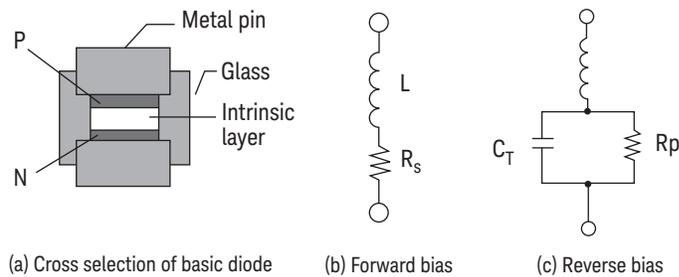

Figure 3. PIN diode equivalent circuits
PIN diodes are another mainstream switching technology. The PIN diode structure consists of an intrinsic (I) layer with very high resistivity material sandwiched between regions of highly doped positively (P) charged and negatively (N) charged material as shown in Figure 3(a).
When the PIN diode is forward biased, positive charges from the P region and negative charges from the N region are injected into the I-layer increasing its conductivity and lowering its resistance. Figure 3(b) shows the equivalent circuit with the PIN diode forward biased.  $L$  is the parasitic inductance and  $R_S$  is the series resistance, approximately  $1 \Omega$  depending on the biasing applied and the PIN diode structure.
With reverse or zero biasing, the I layer is depleted of charges and the PIN diode exhibits very high resistance ( $R_p$ ) as shown in Figure 3(c).  $C_T$  is the total capacitance of the PIN diode which is the sum of the diode junction capacitance ( $C_{j0}$ ) and the parasitic capacitance ( $C_p$ ). Capacitance limits switch performance at high frequencies in the form of isolation roll-off and increased insertion loss. A low capacitance diode may help improve performance at higher frequencies.